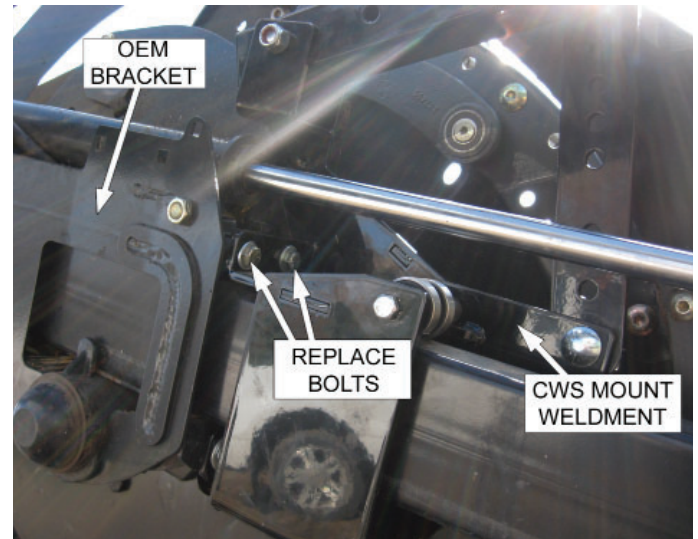

Figure 40: Right hand reel arm (FD70 & CIH 2162 headers)
2. Remove the OEM cylinder mount from the reel arm and save the pin and hardware for later use (Figure 40).